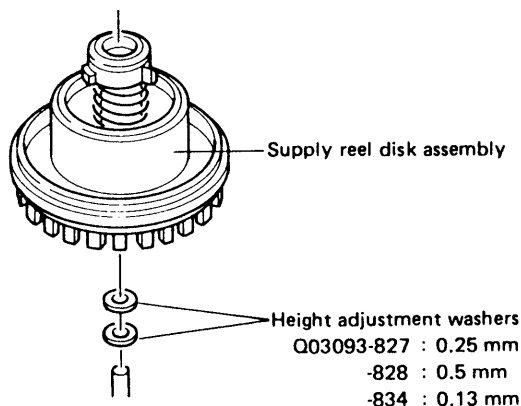

Fig. 2-20 Washers for height adjustment
- 4) If not the correct, use the height adjustment washers to obtain the correct height as shown in Fig. 2-20.